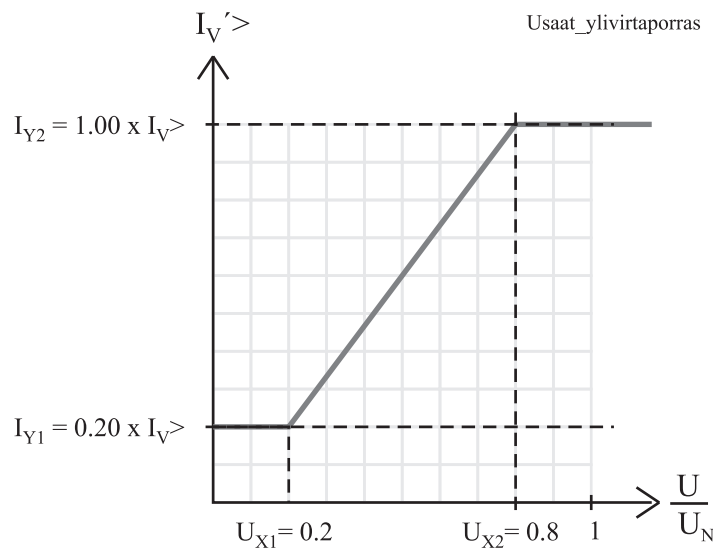

Figure 5.13: Characteristics of a voltage restrained overcurrent function $I_V >$.
In these applications the operation of the high set overcurrent function must be secured using a voltage restrained overcurrent function. At close-by short circuits the fault current rapidly decreases, thus jeopardizing the operation of the high set short circuit protection. The operation characteristic of a voltage restrained overcurrent function is shown in Figure 5.13. The under impedance protection (see Chapter 5.18 Underimpedance $Z <$ (21)) can be used for the same purpose.
When generator pole voltage falls below the set voltage level the pick-up current level of the overcurrent stage $I_V >$ also starts falling linearly controlled by the voltage according to the characteristic curve. See Figure 5.13.